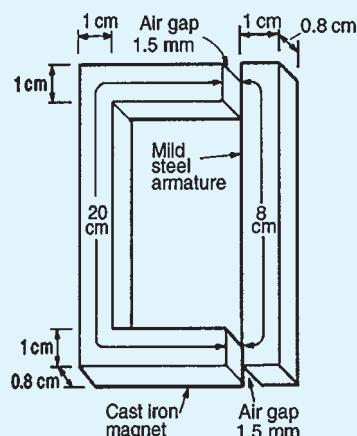

Figure 7.8
6. Figure 7.8 shows the magnetic circuit of a relay. When each of the air gaps are 1.5 mm wide find the m.m.f. required to produce a flux density of 0.75 T in the air gaps. Use the B-H curves shown on page 74. [2970 A]